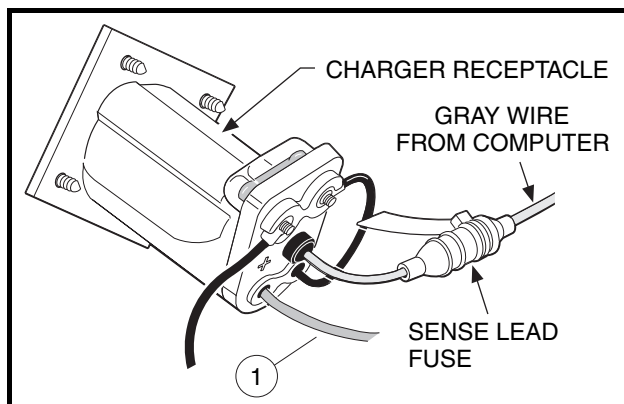

Figure 8-7 Receptacle Wire Connections
- 3.4. Make sure the two nuts that secure the two 10-gauge black wires to the receptacle fuse assembly are tight (**Figure 8-7, Page 8-13**).